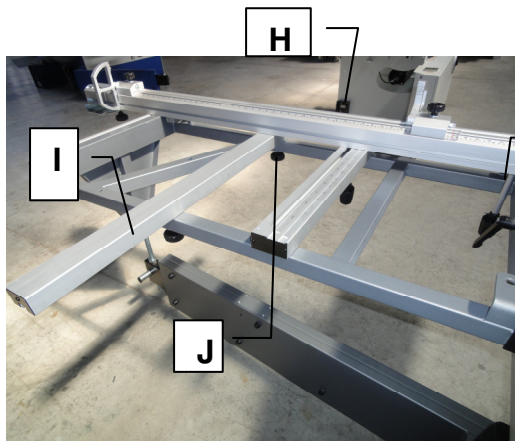
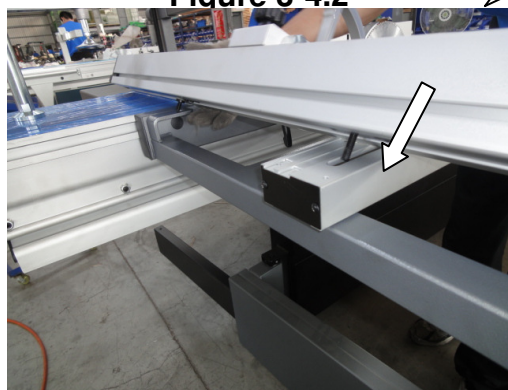

Figure 3-4.2
Figure 3-4.2b
2. Fit square pipe **I** (Fig. 3-4.2) to **R** (Fig. 3-4.1a) of crosscut frame. And tighten knob **J**(Fig. 3-4.1b & 3-4.2) for fixing on crosscut frame.
- Fit crosscut fence in the groove **H** (Fig. 3-4.2) and holes on crosscut frame (as Fig 3-4.2b)